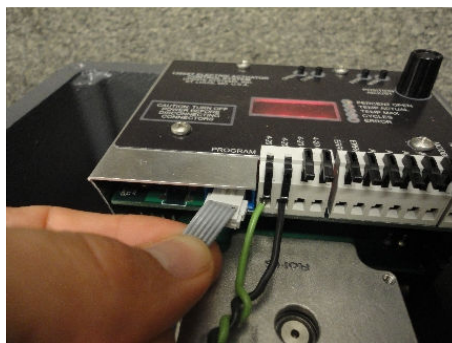

Figure 32
Step1: Attach the 1200XT Programmer to the controller (Figure 32). The controller should be powered for reprogramming.